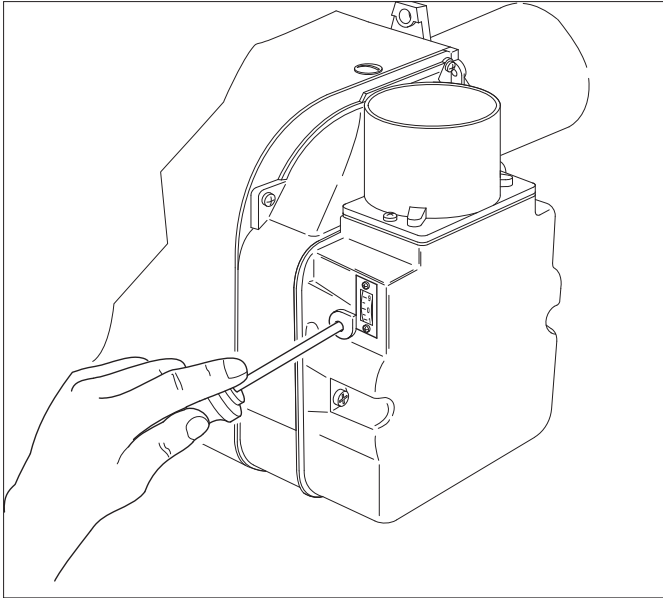

Figure 16-6: Air damper adjustment
Use a 3 mm Allen key to adjust the air damper. Refer to Figure 16-6.
4. Set the %CO2 to the value given in Section 2.4 for the boiler concerned by using the hexagonal key supplied to adjust the burner air damper (refer to Figure 16-6) as required.